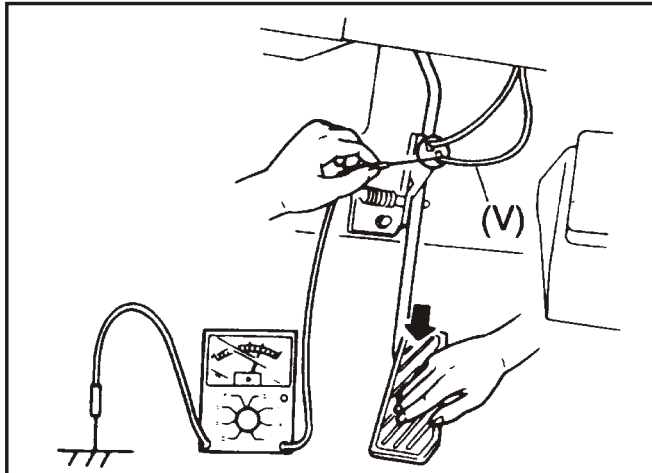

Figure 1
1. Unplug the overdrive cancel solenoid and drive the vehicle. If a 3-4 shift occurs, there is an external electrical problem which is causing the solenoid to remain energized canceling overdrive. Refer to Figures 1, 2, 3 and 4 to check the possible switches that could cause this concern. If the transmission does not shift into fourth with the solenoid unplugged, go to the next step.